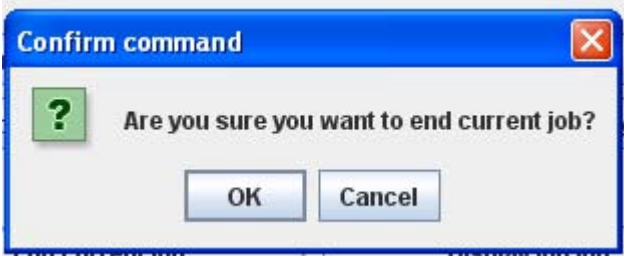

FIG. 11: End Current Job
**End current job** - ends a job and adds material to usage report. The screen will prompt for confirmation. See FIG. 11.